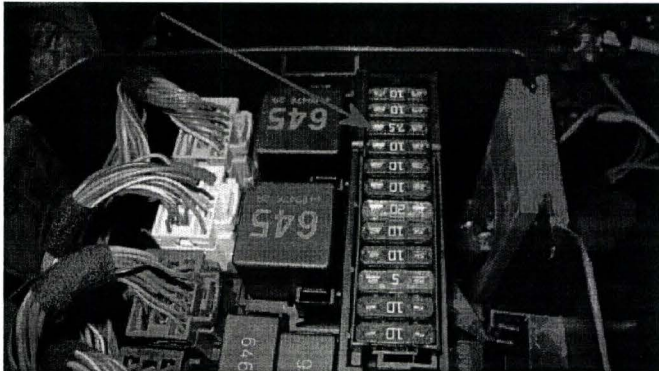

Figure 7
- Remove the fuse box lid and remove the CDA fuse which is the 7.5 Amp fuse (number 3) which is positioned towards the rear of the fuse box (Figure 7) **IMPORTANT:** Please leave the fuse out until instructed to refit later in the TPI